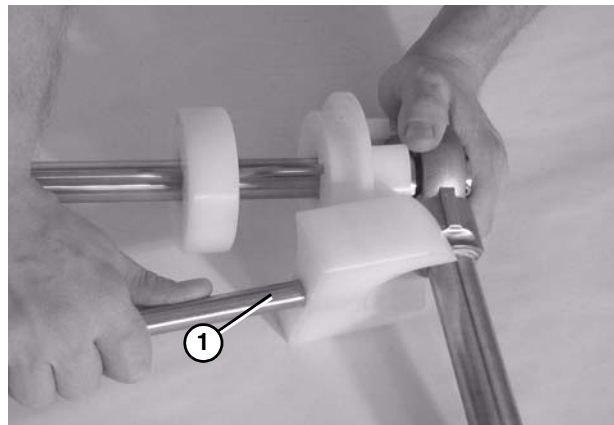

Figure 80
4. Attach the guard bar (Figure 80, item 1).